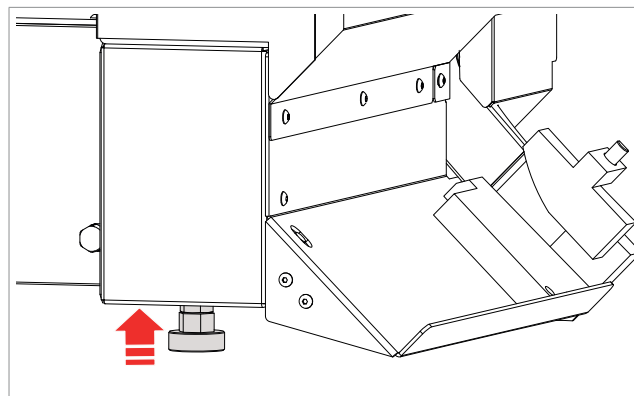

Fig. 134
- 7) Check that the loader foot is completely tightened (Fig. 134).